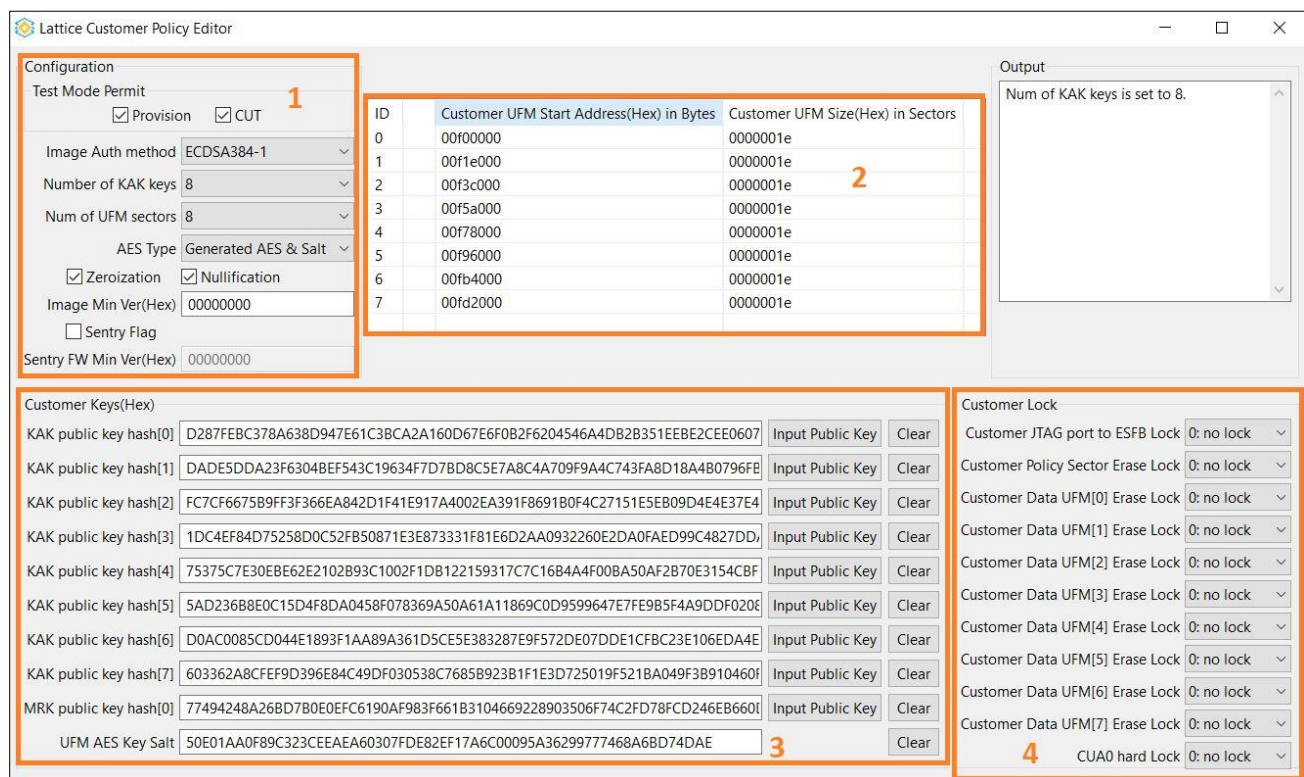

Figure 7.2. Policy Editor GUI
3. The Policy Editor GUI opens (Figure 7.2).
Policy Editor includes the following components, as labelled in Figure 7.2: